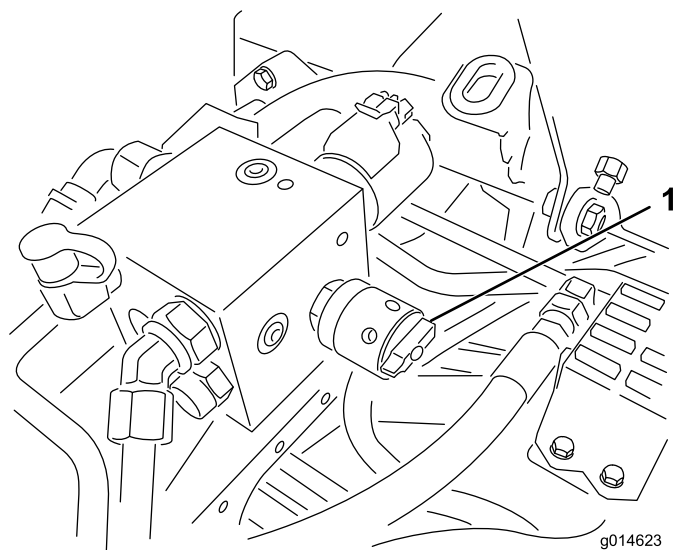

Figure 38
- To set the reel speed, rotate the knob (Figure 38) until the indicator arrows are in line with the number designating desired setting.